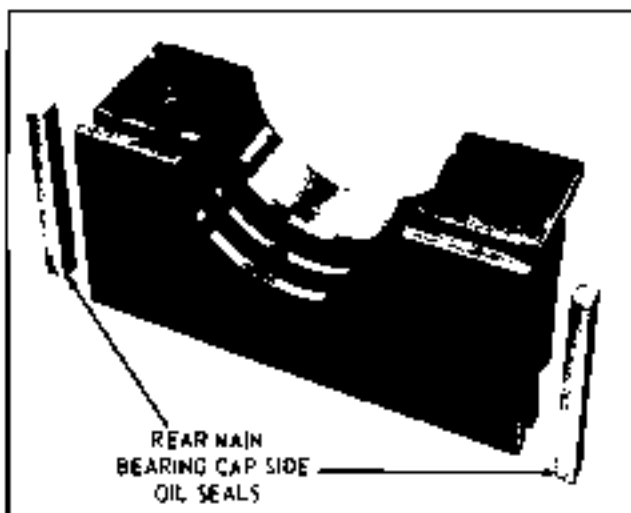

Fig. 6-45 Rear Main Bearing Cap Side Oil Seals
4. Remove rear bearing cap side oil seals. Place new seals in position and place bearing cap in vise and compress seals into place (Fig. 6-45).